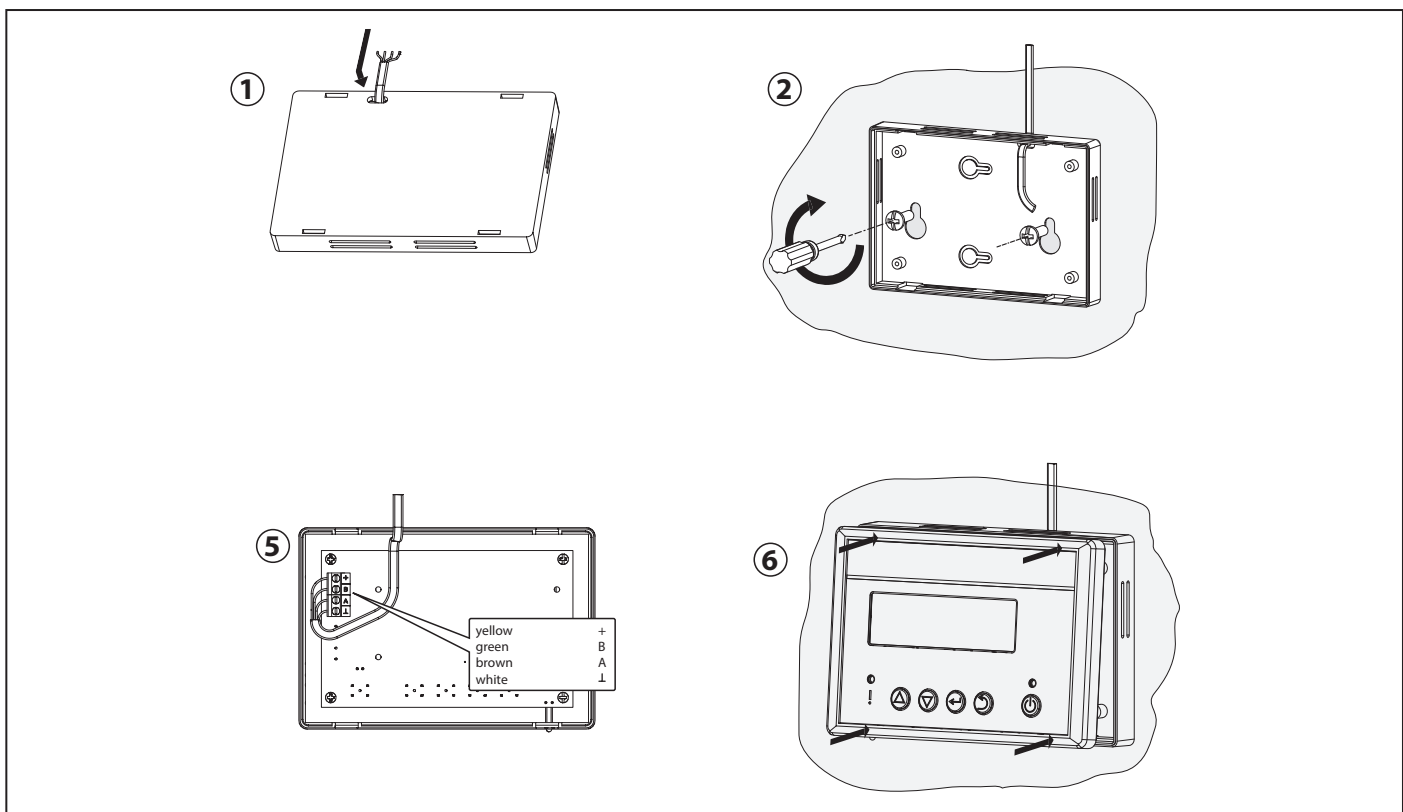

Fig. 10. Control panel mounting
3. Install the control panel as follows (ref. Fig. 10):